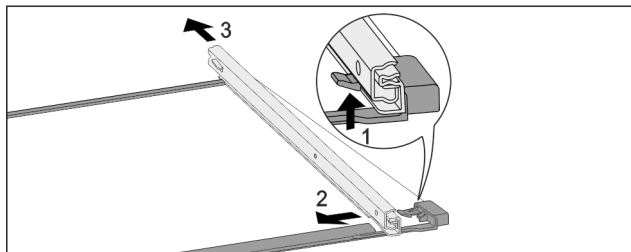

Fig. 233 Glass shelf with rails
- Push up front click-in hooks. Fig. 233 (1)
- Move the pull-out rails to the side Fig. 233 (2) and to the rear Fig. 233 (3).